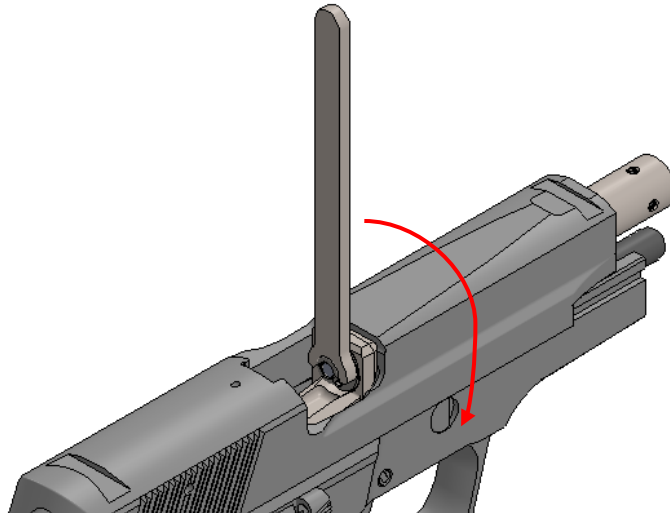

Figure 7: Tailpiece Tightening
- Pull the slide towards the rear of the gun, exposing about an inch of the chamber. Insert the tailpiece wrench into the mating holes on the tailpiece fastener. Turn wrench in a clockwise direction until tailpiece fastener is completely snug and cannot turn anymore (Figure 7). Make sure the tailpiece and barrel block edges line up correctly. Misalignment can cause premature wear on the air transfer tube and possible kit malfunction.